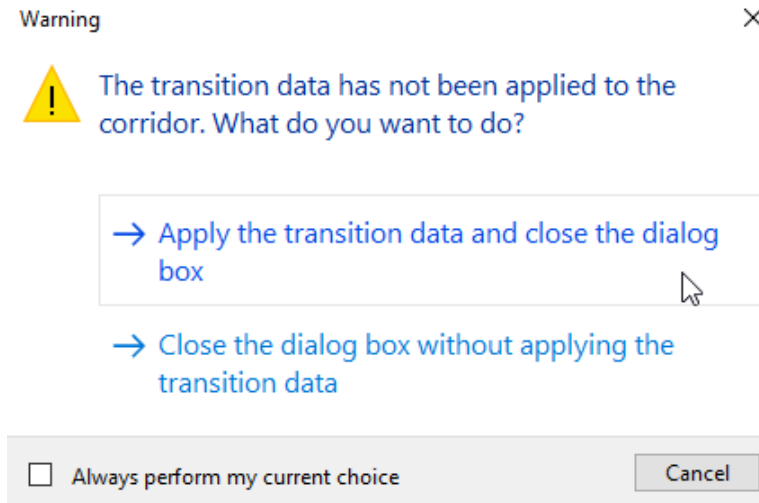

Figure 3.18 – Apply the transition data and close the dialog box
10. Now, go ahead and either click the **Apply** button in the top right of the panorama or close the panorama and select **Apply the transition data and close the dialog box** option when prompted (refer to *Figure 3.18*).